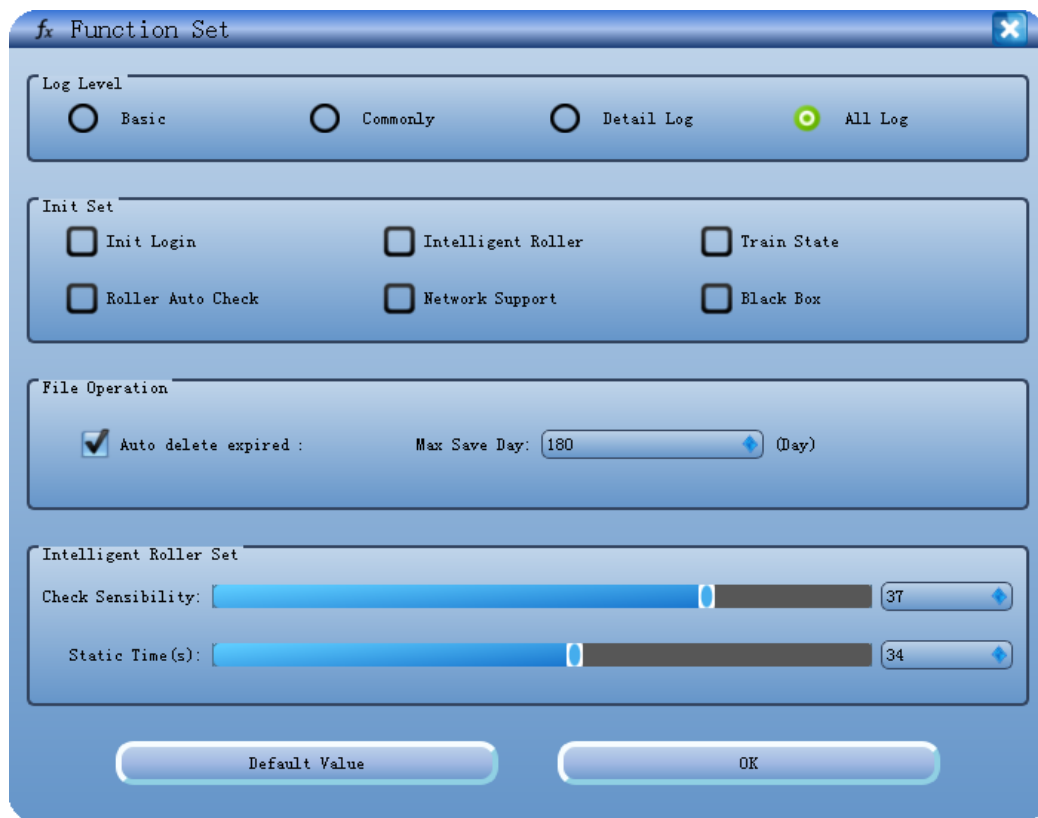

Figure 6.18 Function Set Interface
- 1) Click F8 to open the main menu and select “Function Set” to enter the interface as shown in figure 6.18.
- 2) Click the function set button in the menu column to pop up the interface as shown in figure 6.18. It’s not recommended to change it.